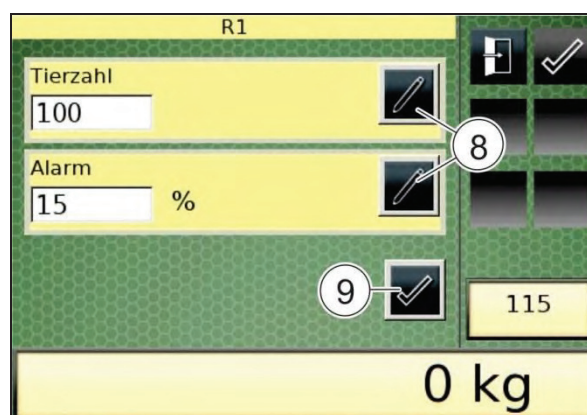

Fig. 219
- 4.5 Press the "Change entry data" key (6).
- The "Recipe overview - Discharge stations" display (Fig. 219) appears.
- 4.9 Press the "Confirm" key (9) to finish the change of settings regarding the selected discharge station.